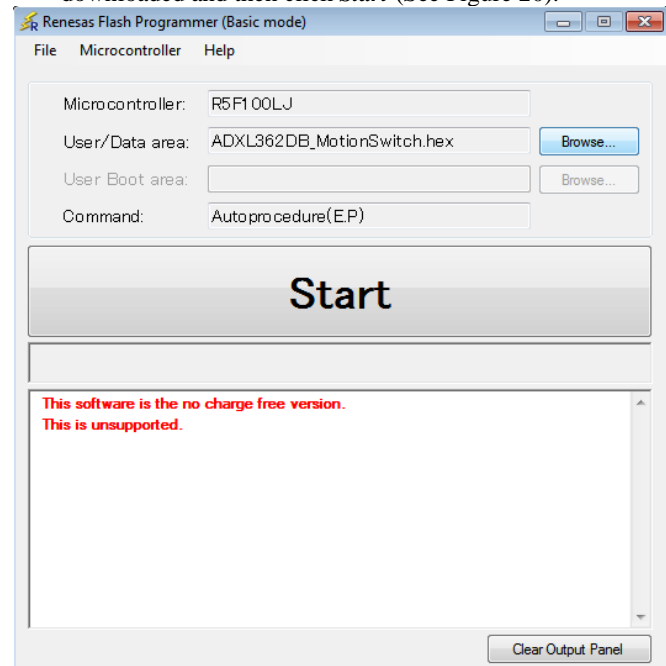

Figure 20. Select Firmware
7. Click **Browse...** to find the .hex file that going to be downloaded and then click **Start** (See Figure 20).